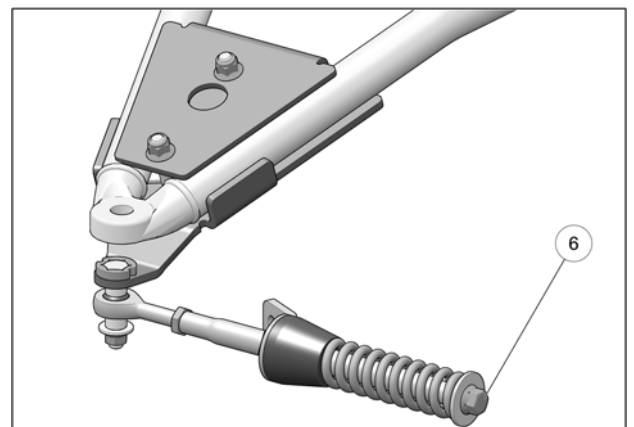

Fig. 30
13. Verify that spring assembly bolt (6) is tightened to the recommended torque specification: 75 N•m [55 lb•ft]. See Fig. 30